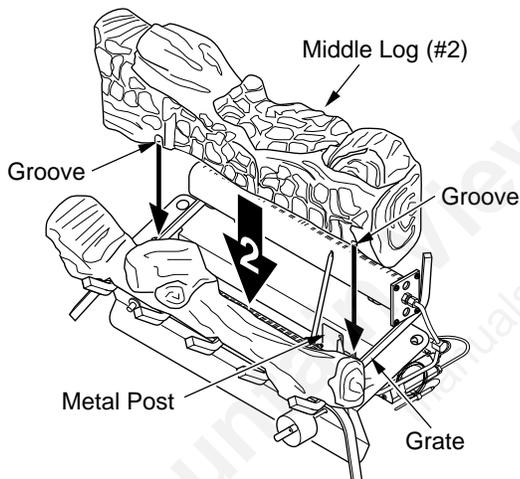

Figure 22 - Installing Middle Log (#2)
2. Rest middle log (#2) behind metal posts on grate assembly. Make sure the grooves in the bottom of the log fit over the grate. Bring the log forward next to the metal posts (see Figure 22, page 15).